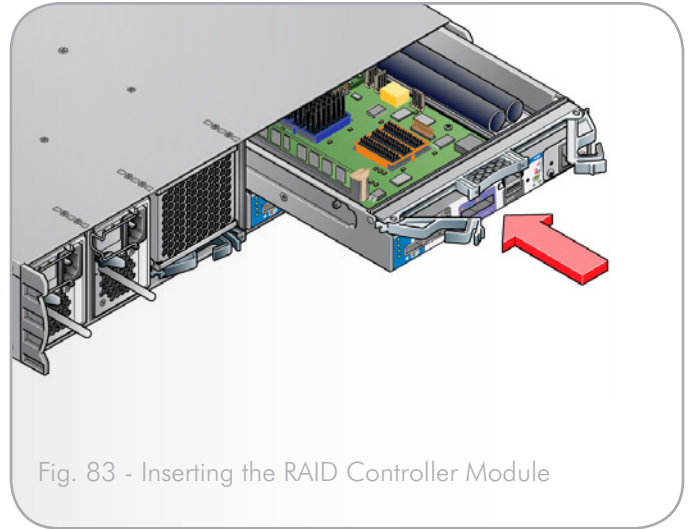

Fig. 83 - Inserting the RAID Controller Module
2. With the latches in the open position (see Fig. 83), slide the controller module into the enclosure until the latches engage.